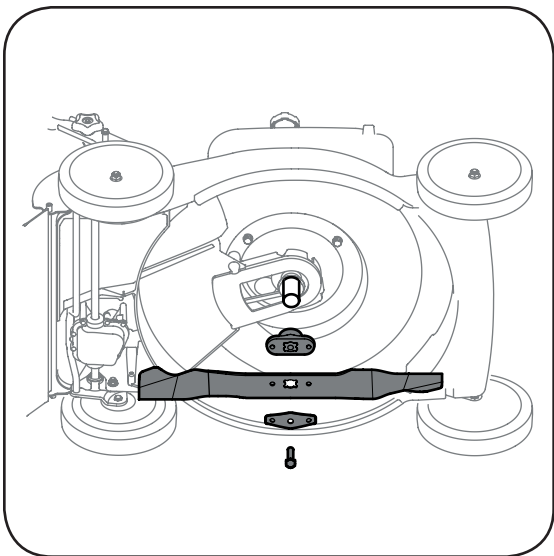

Figure 5-3: Remove bolt, bell support, blade, and adapter to gain access to the blade.
2. Remove bolt, blade bell support, blade, and blade adapter from the engine crankshaft, Figure 5-3.